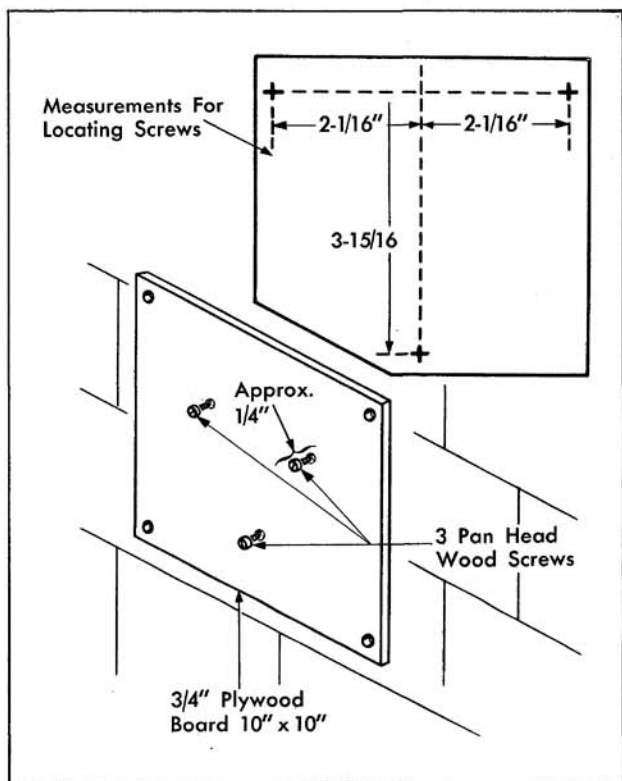

Fig. 13-95 Aiming Fixture
2. Install three 1/2" No. 6 pan head wood screws on the board as shown in Fig. 13-95. The screw heads should be approximately 3/4" from board.